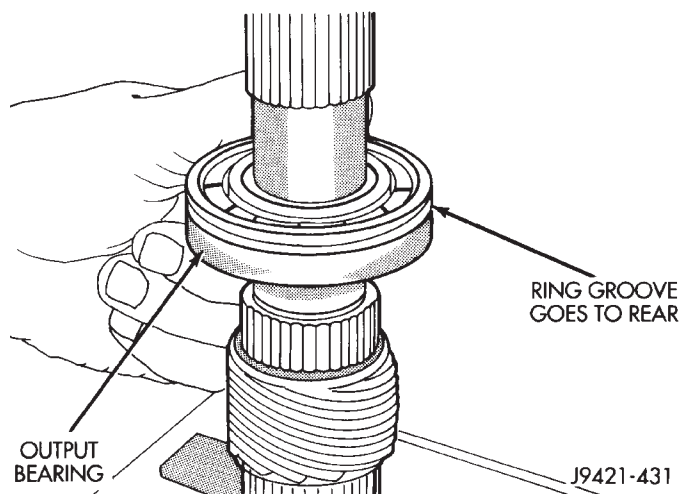

Fig. 66 Output Bearing Installation
(22) Install output bearing on mainshaft (Fig. 66). Be sure groove in outer race of bearing is toward rear of shaft. If bearing is reversed, retaining ring (in extension) will not align bearing.